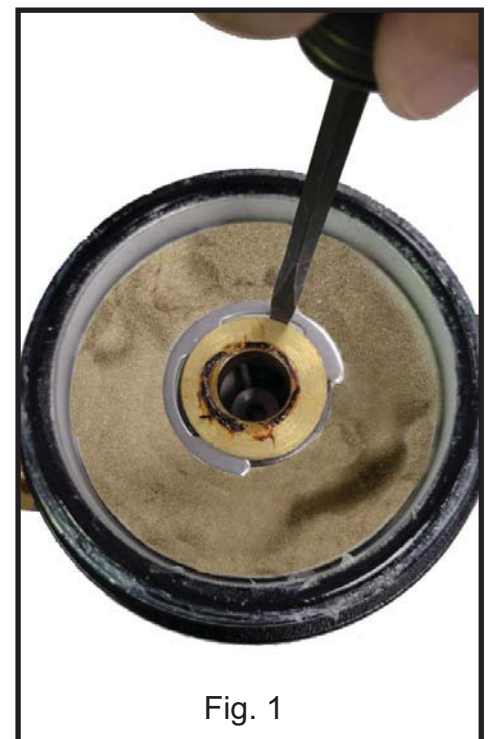

Fig. 1
4. Using a flathead screwdriver, remove the retaining e-ring (#5) from the head as shown in Fig. 1. Press down on any side of the EKD1206 (#10) dispersion filter to remove it, and replace it with the new one in this kit and replace the e-ring (#5).